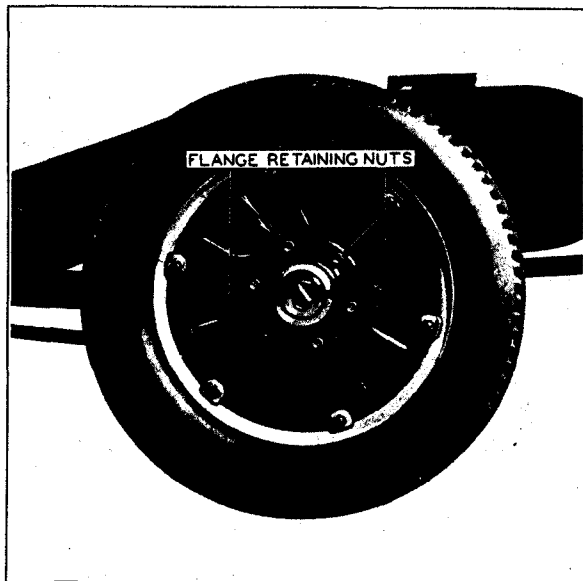

Fig. 109. View of Rear Wheel Showing Nuts Which Hold Axle Shaft to Wheel
**WOOD WHEELS**—Remove the six nuts (Fig. 109) which hold the flange to the wheel.